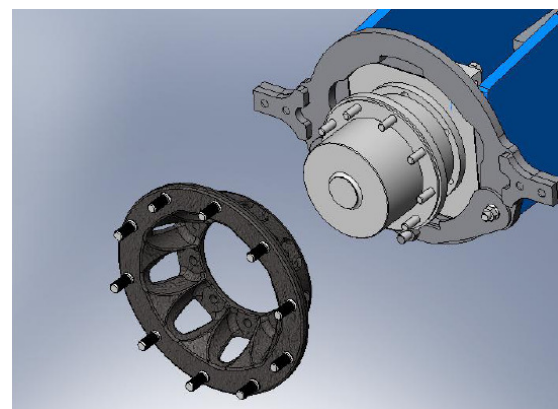

Fig. 3
- b. Use the existing wheel nuts that were used to secure the wheels and tighten the nuts to the standard wheel torque. **Fig. 3**